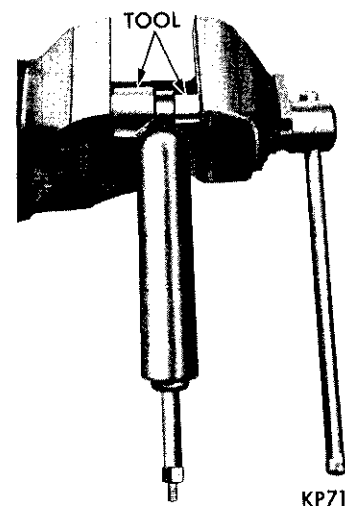

Fig. 3—Removing or Installing Shock Absorber Bushing
(1) Loosen and remove nut and retainer from upper end of shock absorber piston rod.
(2) Raise car so wheels are clear of floor and loosen and remove lower attachment bolt nut. Remove this bolt from lower shock absorber eye and lower control arm mounting bracket.
(3) Compress shock absorber by pushing upward and remove from vehicle by pulling down and out of upper shock absorber mounting bushing. (Imperial models you may find it necessary to remove the upper control arm bumper to obtain enough clearance to remove shock absorber and dust shield).
(4) Check appearance of upper shock absorber mounting bushing and if it appears worn, damaged, or deteriorated, remove bushing by first pressing out inner sleeve with a suitable tool then prying out or cutting out the rubber bushing. (This bushing will take some set after it has been in service and should be replaced once it has been removed.)
(5) If lower bushing requires replacement, remove it from shock absorber using Tool C-3553 by pressing on the outer sleeve of bushing (Fig. 3).
(1) To install upper rubber bushing, remove inner steel sleeve and immerse bushing in water (DO NOT use oil or soap) and with a twisting motion, start bushing into hole of upper mounting bracket, then tap into position with a hammer. Reinstall steel inner sleeve in bushing.
(2) Install lower mounting bushing in eye of shock absorber using Tool C-3553 (Fig. 3).
(3) Test and expel air from shock absorber, then compress to its shortest length. **On Chrysler models** position retainer on upper rod of shock absorber and insert rod through upper bushing and install upper retainer and nut and tighten to 25 foot-pounds. **On Imperial models** position retainer on upper rod of shock absorber followed by dust shield. Insert rod through upper bushing and install upper retainer and nut and tighten to 25 foot-pounds.